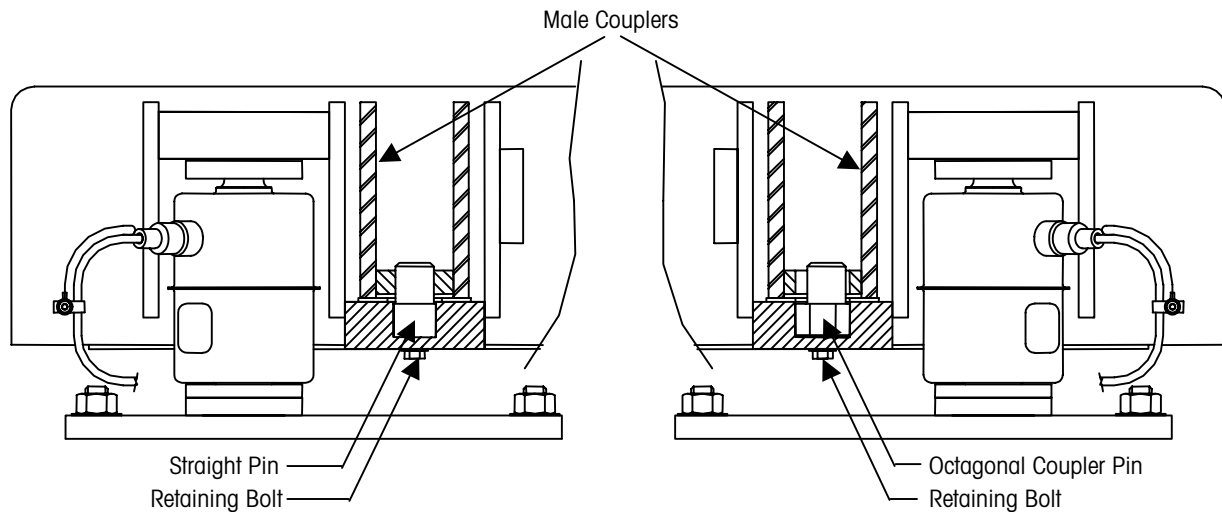

Figure 5-2: Module Alignment
- Remove the retaining bolt from the octagonal coupler pin of the adjoining module and lift it from the socket (see Figure 5-2). Rotate the pin one position counterclockwise for left drift or clockwise for right drift, and then drop it back into socket. Replace retaining bolt.